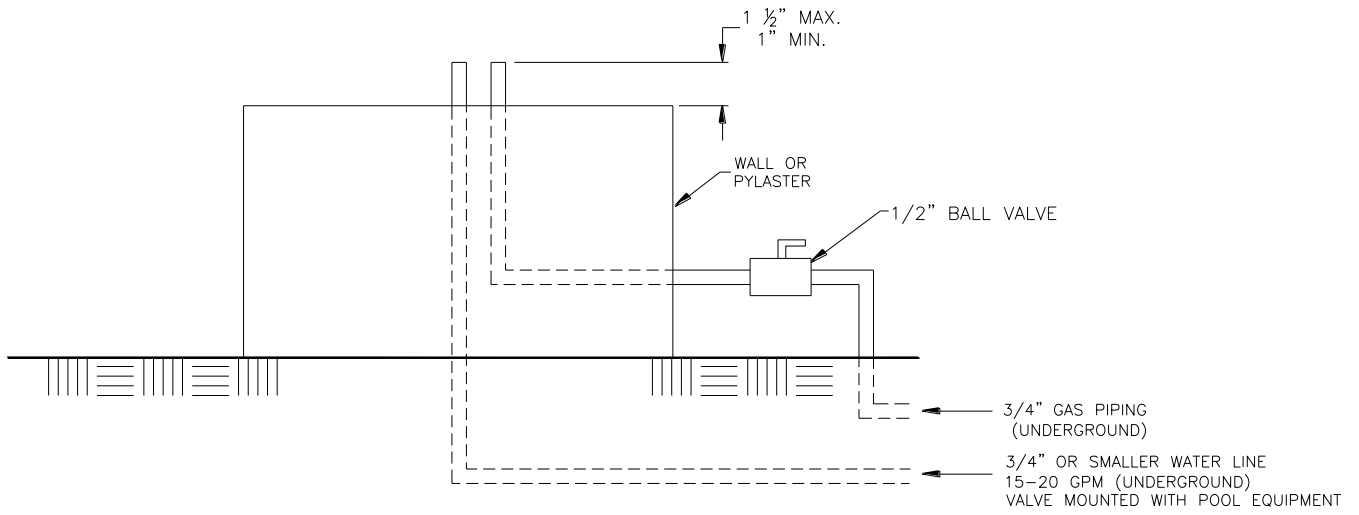

Figure 1
- 2.5 Install the Fire's Edge Unit as shown in Figures 1, 2 & 4. Figure 3 is an optional configuration to catch dirty run-off water.
- 3.12 The height of the flame can be adjusted by opening or closing the ball valve as shown in Fig. 1.